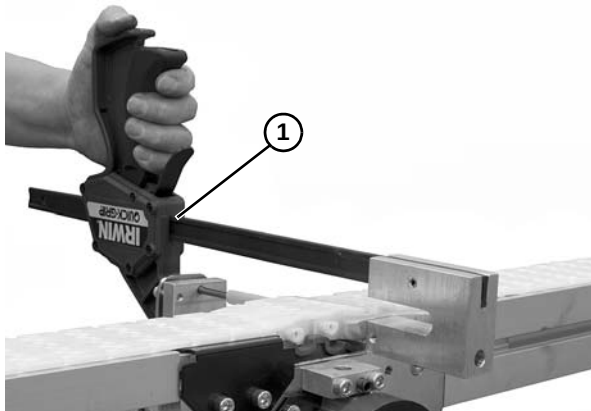

Figure 87
6. Use belt removal tool #203480 (**Figure 87, item 1**) or a punch and hammer to push the belt rod out by striking the rod end.